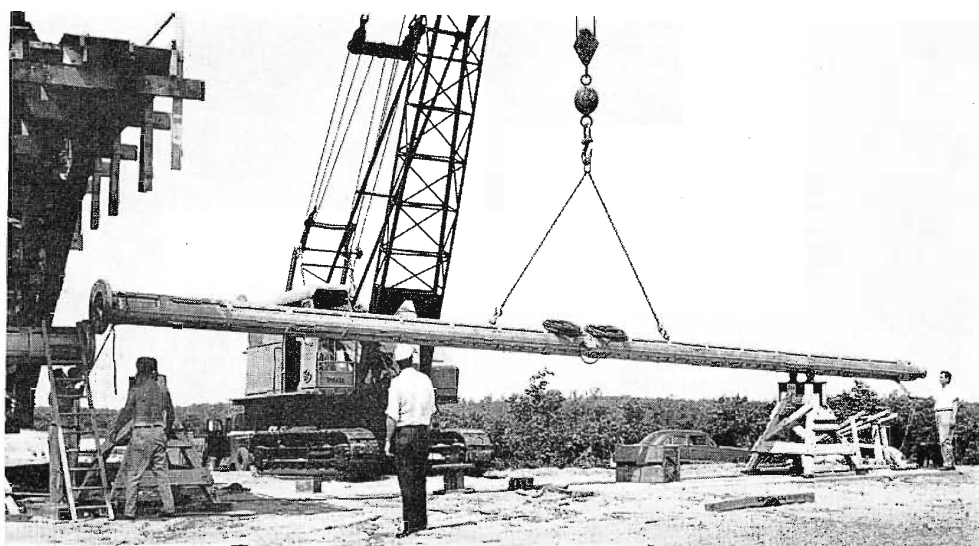

FIG. 7. Here two halves of a high-gain antenna are being assembled at the test site. Note crane which is part of normal equipment complement.
Three turntables were constructed to handle antennas of 15 tons, 3 tons and 1 ton respectively. The first one was located on the southernmost hill (see Fig. 5) and the other two on the northernmost hill 800 feet removed. Figure 6 is a close-up view of the 15-ton turntable on which antennas up to 130 feet long are tested. A crane for handling the antennas (see Fig. 7) is kept on the site at all times. The antennas are rotated at speeds up to one rpm by a thyatron-controlled d-c motor and a gear-reduction drive. Signals at required frequencies are transmitted from an 80-foot tower at Union Mills, 2.4 miles away. This distance was chosen so that for the longest antenna in the UHF band, the rays would be substantially parallel. Measurements taken at shorter distances could give a false picture of the fill-in achieved. Figure 8 shows this tower on which various transmitting dishes and corner reflectors are located for both VHF and UHF. The shack below contains oscillators which can be turned on and off and varied in
FIG. 7. View of front of control room showing camera controls and switching equipment, (left to right): (1 and 2) TK-26; (3 and 4) TK-45; (5 and 6) TK-41; and (7) TS-11 Switcher. Director's table is at right. Audio equipment is in left background and five color receivers used by directors are at right.